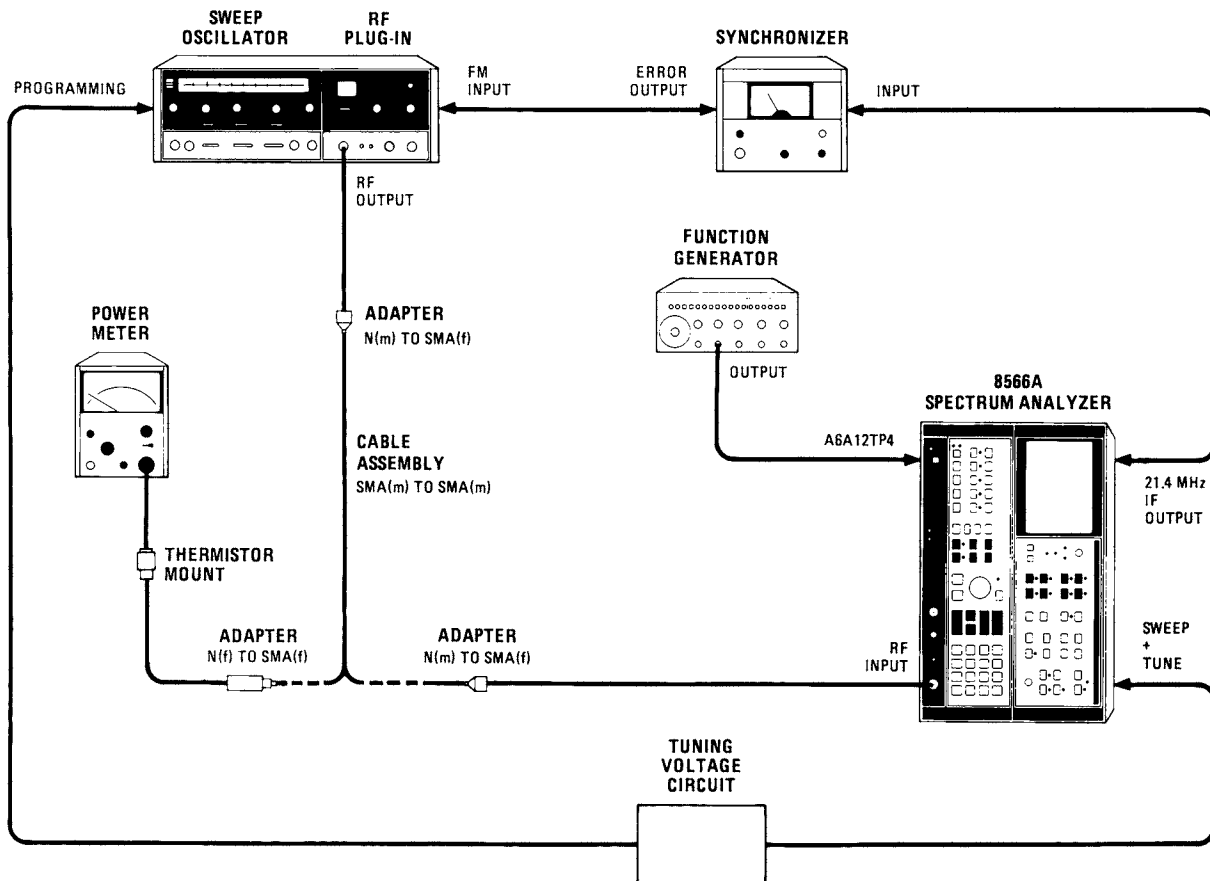

Figure 5-67. Frequency Response Adjustments Setup (2.0–18.6 GHz)
20. Replace 86222A RF Plug-In with 86290B RF Plug-In (2-22 GHz) and connect equipment as shown in Figure 5-67 with power meter/mount connected to sweep oscillator without attenuator.